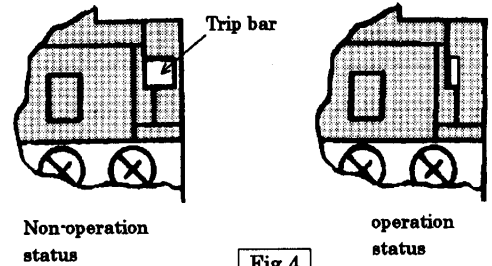

Fig. 4
- The operation status of the Thermal overload relay is indicated with the projected length of the Trip bar (Fig.4).